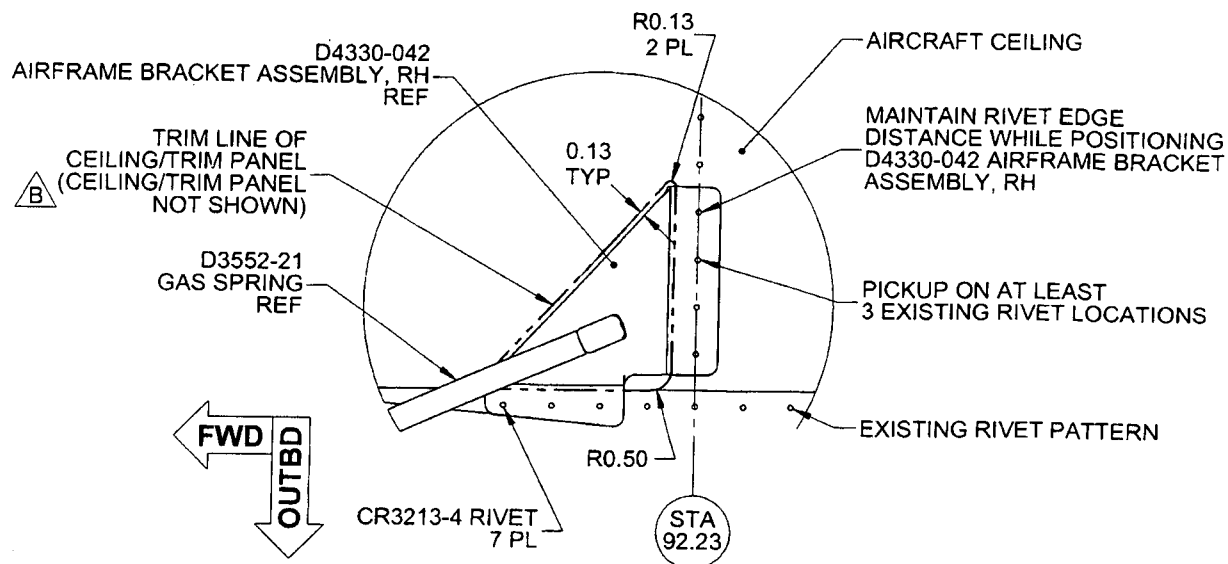
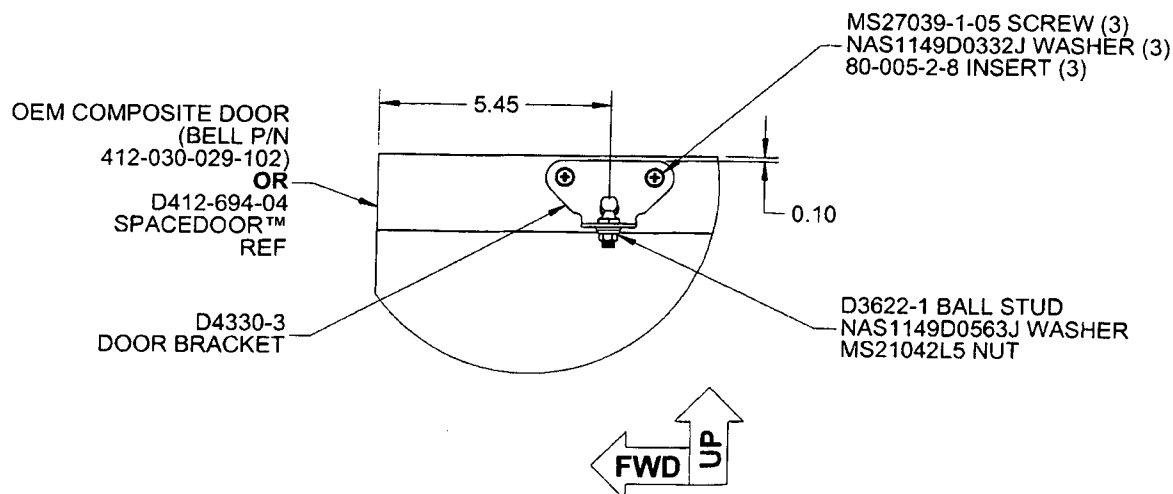

FIGURE 3: LOCATION OF D4330-042 AIRFRAME BRACKET ASSEMBLY
FIGURE 6: LOCATION OF D4330-3 DOOR BRACKET
8. Locate D4330-042 Airframe Bracket Assembly, RH on the aircraft ceiling per Figure 3. Transfer drill #30 ($\phi 0.129$ ") holes from the ceiling to D4330-042. Deburr holes.
11. Apply a thin layer of Proseal 890 (or equivalent) to faying surface of the D4330-042/-3 brackets. Install the D4330-042 Airframe Bracket Assembly, RH using CR3213-4 rivets as shown in Figure 3. Install D4330-3 Door Bracket using hardware as shown in Figure 6.
12. Pre-install the ceiling or trim panels that were removed in Step 1 and transfer mark contour of D4330-041 or -042 as shown in Figure 3 (SHT 6). Remove ceiling or trim panels and perform cutout to clear D4330-041 or -042. Touch-up finish of ceiling or trim panels cutout area in accordance with aircraft maintenance manual and re-install any ceiling or trim panels.
8. Locate D4330-042 Airframe Bracket Assembly, RH on the aircraft ceiling per Figure 3. Transfer drill #30 (Ø0.129") holes from the ceiling to D4330-042. Deburr holes.
9. Locate D4330-3 Door Bracket on the Spacedoor™ per Figure 6. Using Figure 7 as a guide for the approximate locations of the mounting holes, drill 3x #7 (Ø0.201") holes in D4330-3 and the inner door skin. Enlarge holes in Spacedoor™ inner skin to 9/16" (Ø0.5625").
13. Install a D3622-1 Ball Stud on the D4330-3 Door Bracket using hardware specified in Figure 6.